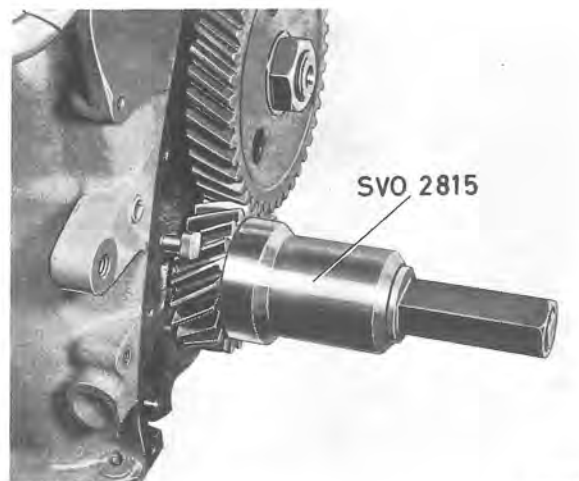

Fig. 2-42. Fitting crankshaft gear
6. Re-fit the crankshaft with tool SVO 2815, see Fig. 2-42.